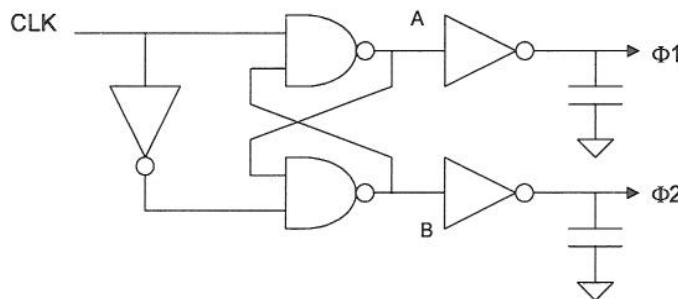

Figure 6.1
- b) *Figure 6.1* shows the circuit for a two phase non-overlapping clock generator. All the inverters are minimum size, and all the transistors used in the NAND gate have a width of $0.3 \mu\text{m}$.